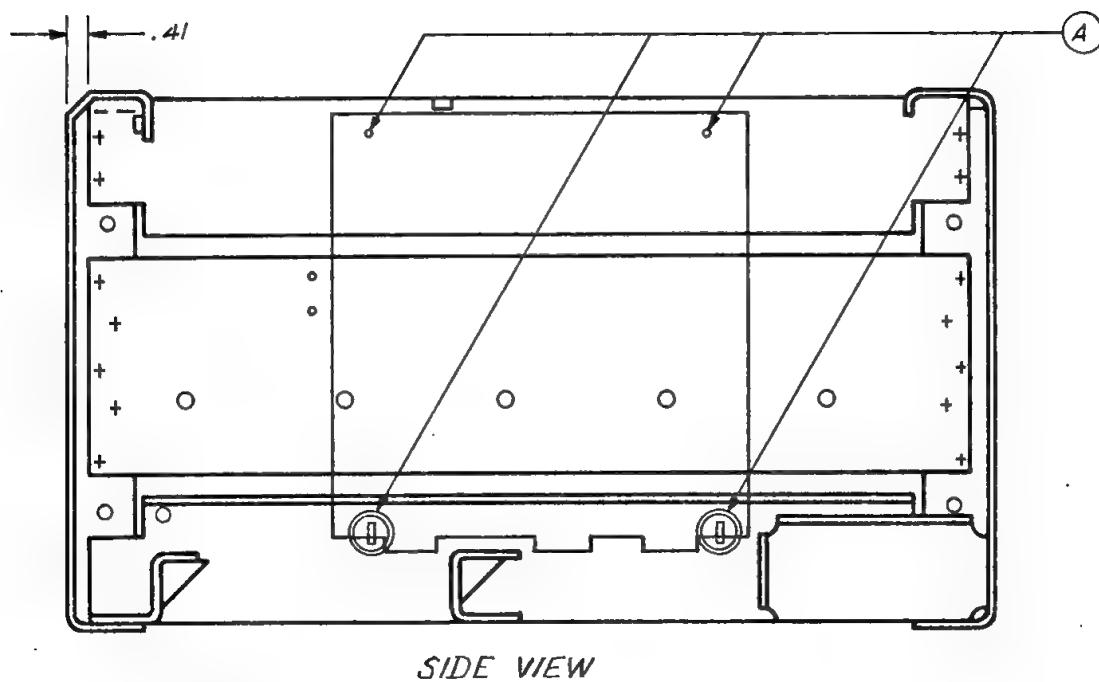

Figure 2-13. Shugart Data Separator Board Installation Diagram
- f. Install the board inside the chassis with the connectors facing the bottom of the unit and the component side of the separator board facing the cardcage, see Figure 2-13. The two top screws are 6-32 by 3/4" flat-head screws. 7/16" spacers are installed between the board and the chassis. The two bottom screws are 4-40 by 1/2" pan-head screws, with 1/4" spacers installed between the board and the chassis.